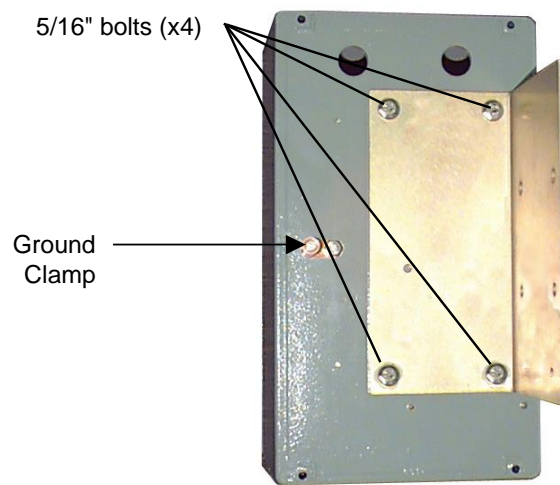

Figure 1. Mounting Bracket Installation
2. (See Figure 1). The mounting bracket attaches to the underside of the 6500 enclosure with four bolts. Position the bracket against the underside of the enclosure so that the mounting holes in the bracket and enclosure align.
15. Fasten a ground wire between the ground cable installed during site preparation and the ground clamp on the underside of the enclosure (*see* Figure 1).